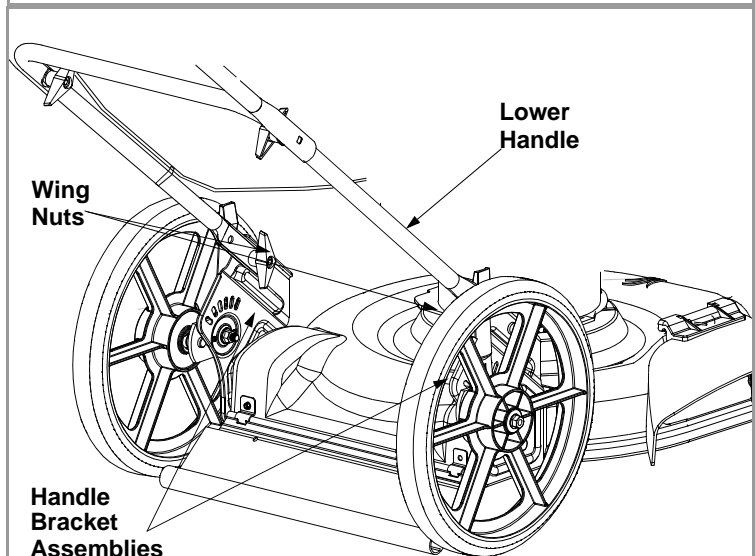

Figure 14
2. Remove the wing nuts shown in Figure 14 and remove the lower handles.